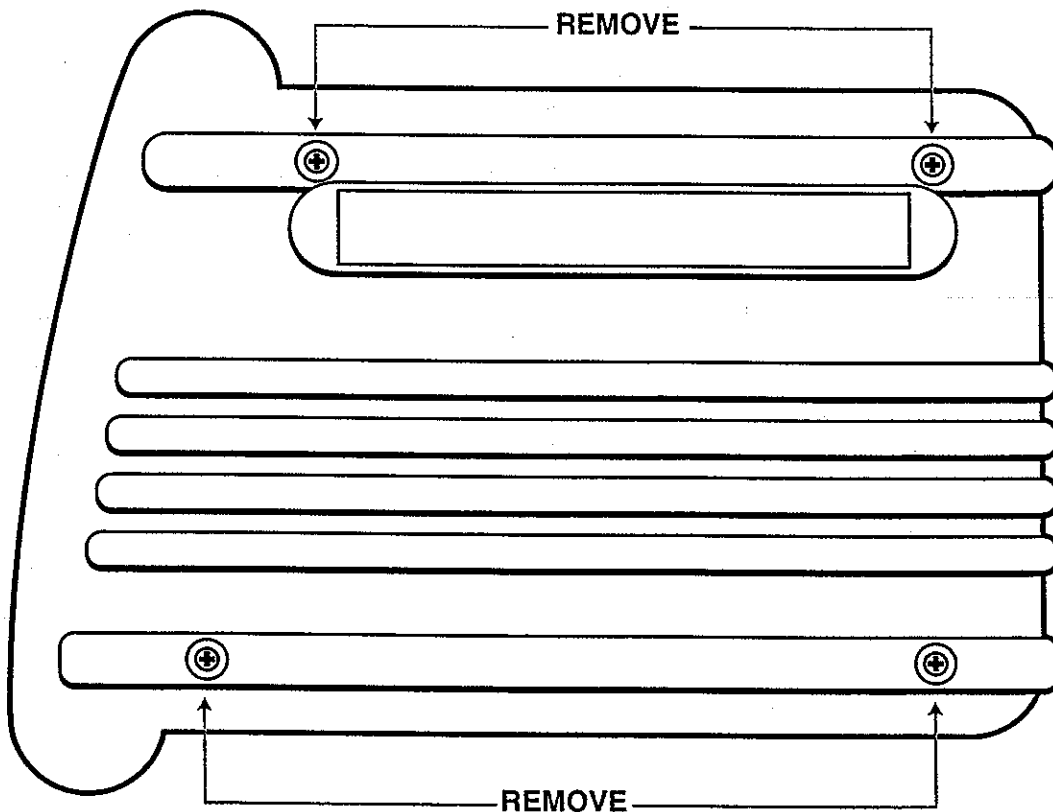

Figure 5-24. Right Side Cover
- 11 Remove the four (4) screws from the right side of the ventilator as shown in Figure 5-24.